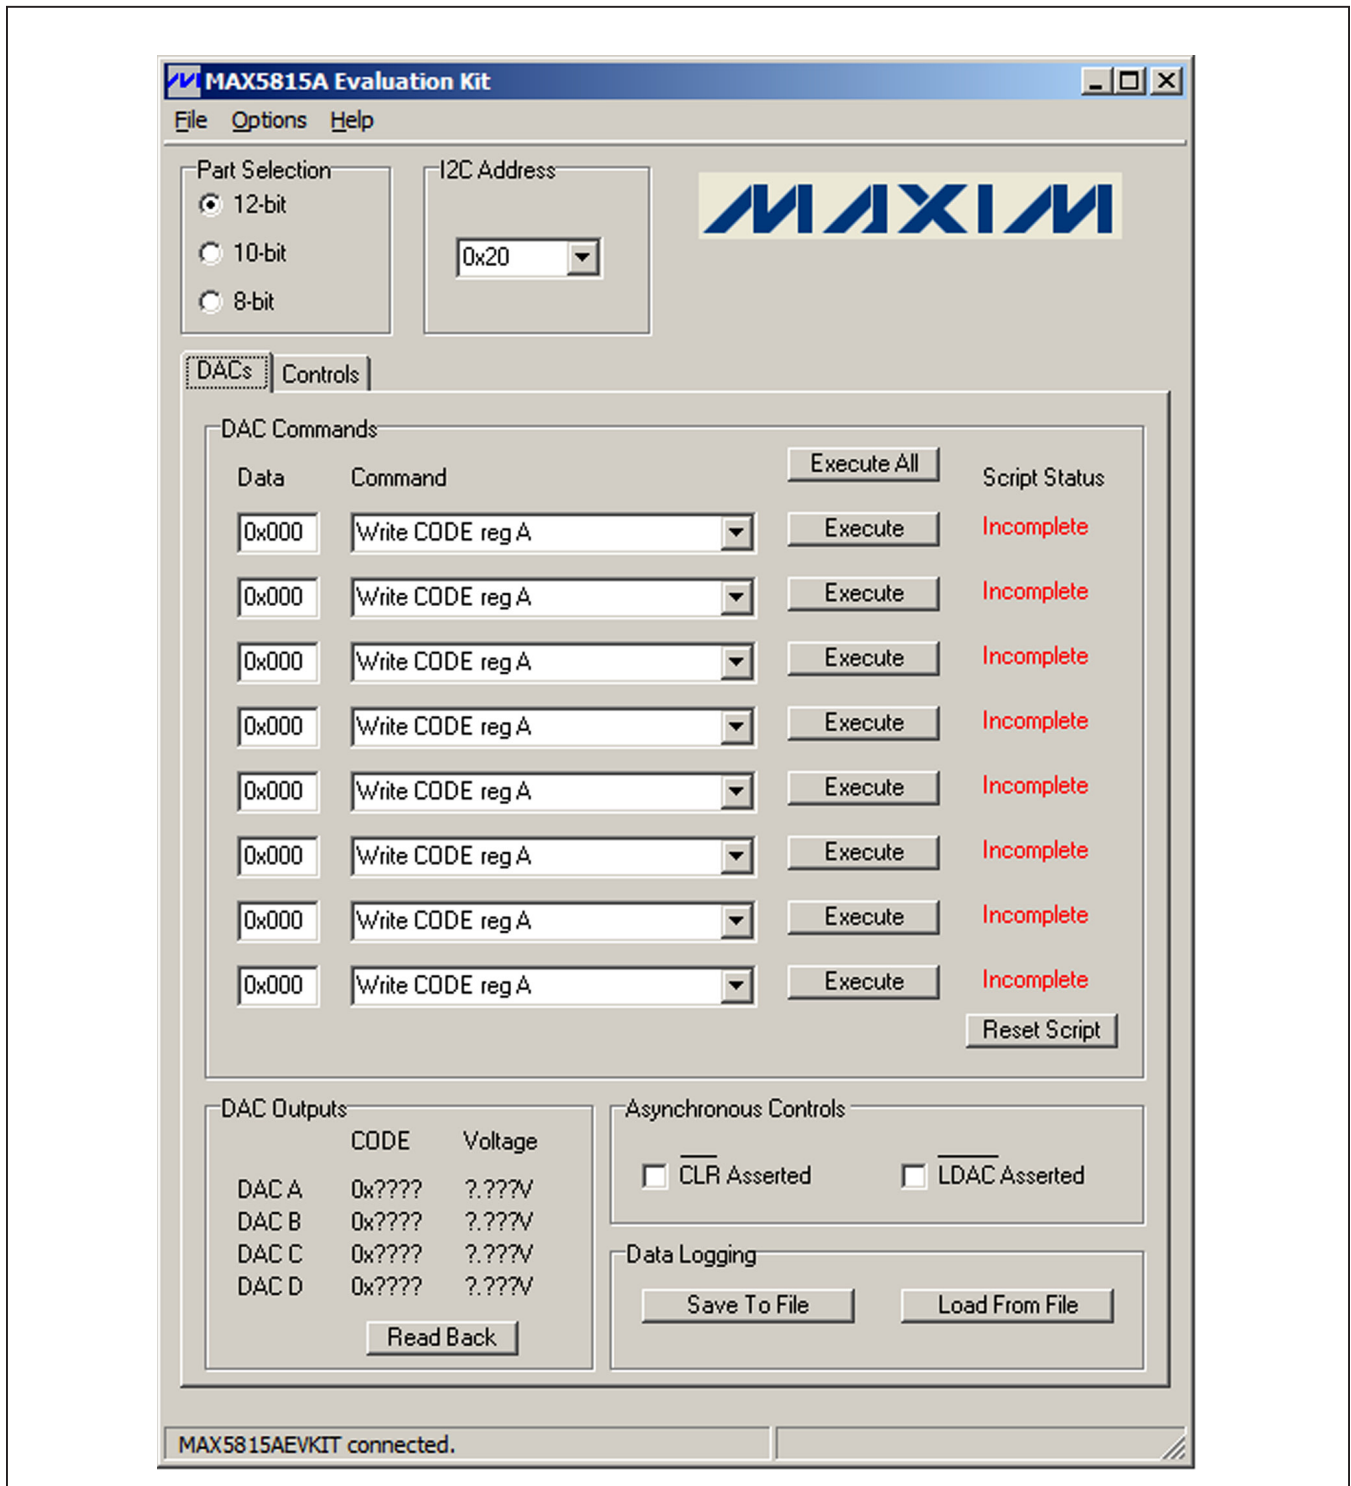
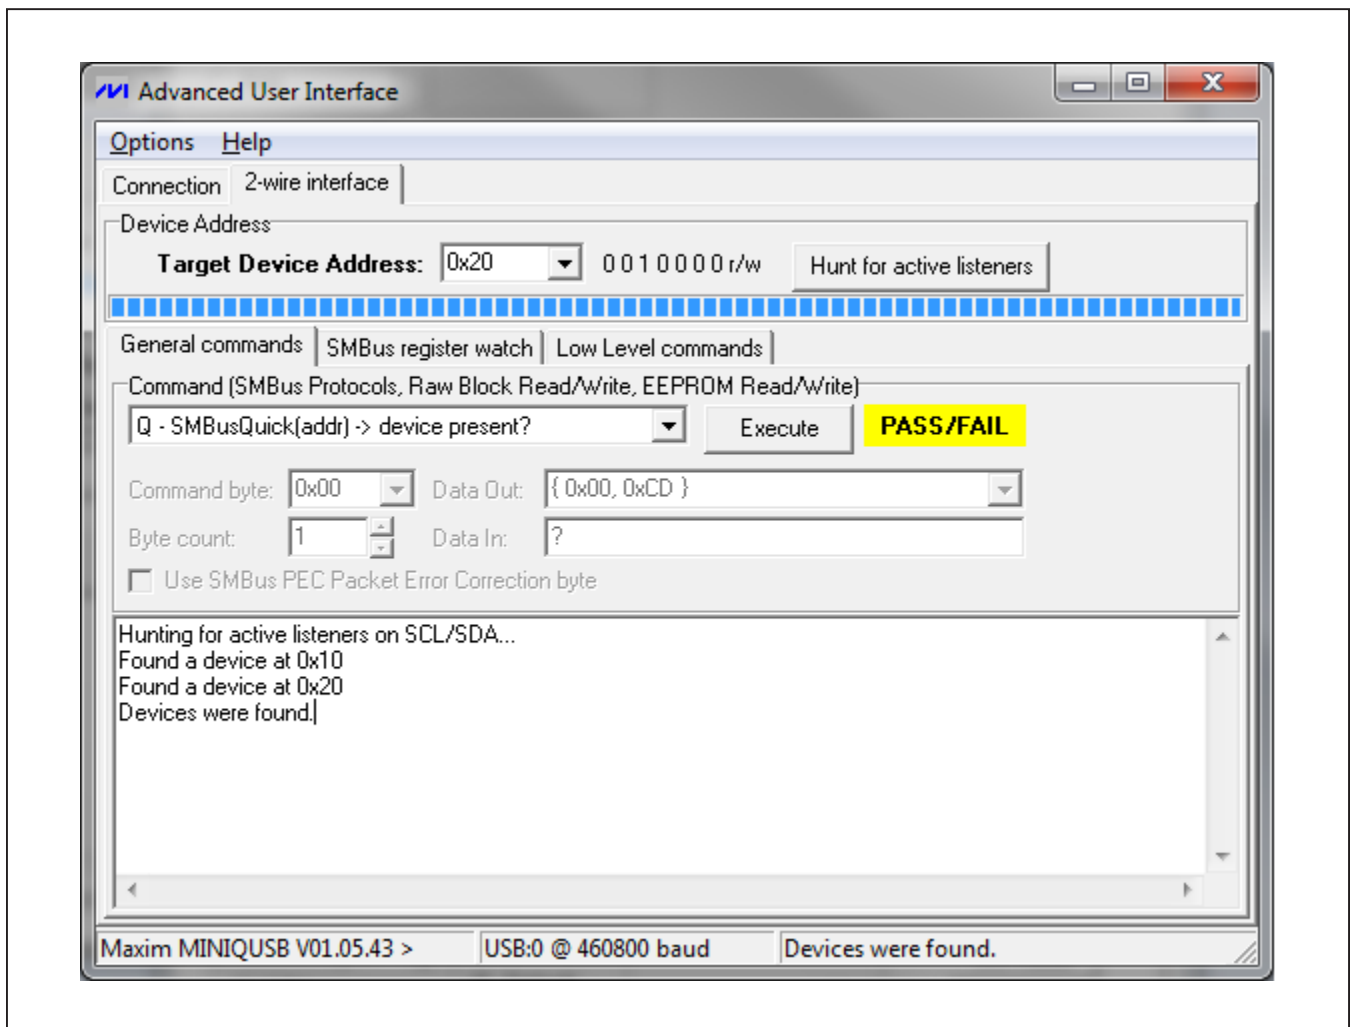

Figure 1. MAX5815A EV Kit Software Main Window (DACs Tab)
Figure 3. Advanced User Interface Window (2-Wire Interface Tab)
- 5) Start the EV kit software by opening its icon in the **Start | Programs** menu. The EV kit software main window appears, as shown in Figure 1.
Enter the desired **Data** on the left and select the appropriate **Command** from the drop-down list (Figure 1). Pressing the **Execute** button writes to the CODE and/or DAC registers and the **Script Status** changes from **Incomplete** to **Complete**. Refer to the MAX5813/MAX5814/MAX5815A IC data sheet for a list of possible commands. If a sequence of commands needs to be performed, adjust all **Data** edit boxes and **Commands** drop-down lists accordingly, and press the **Execute All** button. To reset the **Script Status** to **Incomplete**, press the **Reset Script** button.
In the **Asynchronous Controls** group box (Figure 1), a checked **CLR Asserted** checkbox drives the $\overline{\text{CLR}}$ pin of the device low, which clears the content of both CODE and DAC registers. An unchecked **CLR Asserted** checkbox drives the $\overline{\text{CLR}}$ pin of the device high, which allows the user to write new commands again.
There are two methods for communicating with the device. The first is through the main window shown in Figure 1. The second is through the **Advanced User Interface** window shown in Figure 3. The **Advanced User Interface** window becomes available by selecting the **Options | Interface (Advanced User)** menu item and allows execution of serial commands manually.